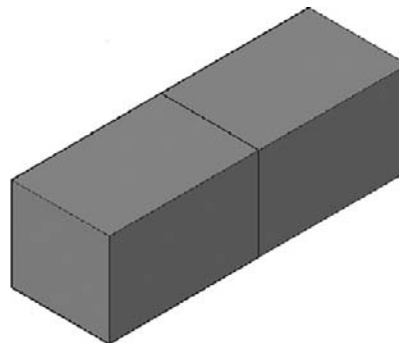

FIGURE 26.13
Step 5. Select the points carefully; Block 2 may be in the way, so you need to trust your OSNAPs (or just stay in wireframe mode to see the points). The final result is shown in Figure 26.13.